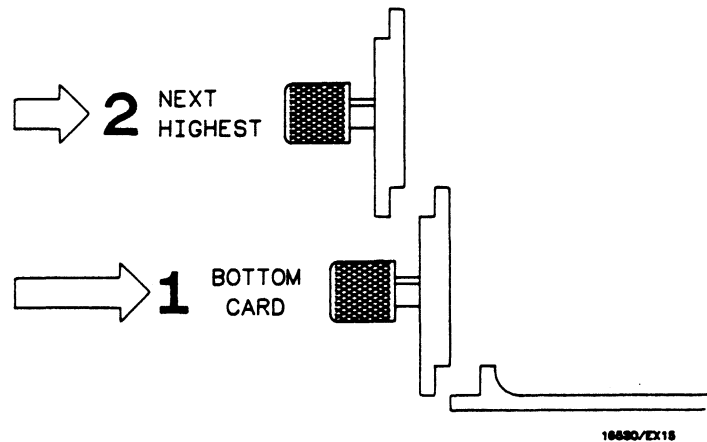

Figure 2-6. Endplate Overhang
- n. Repeat for all cards and filler panels in a **bottom to top** order. See figure 2-6.